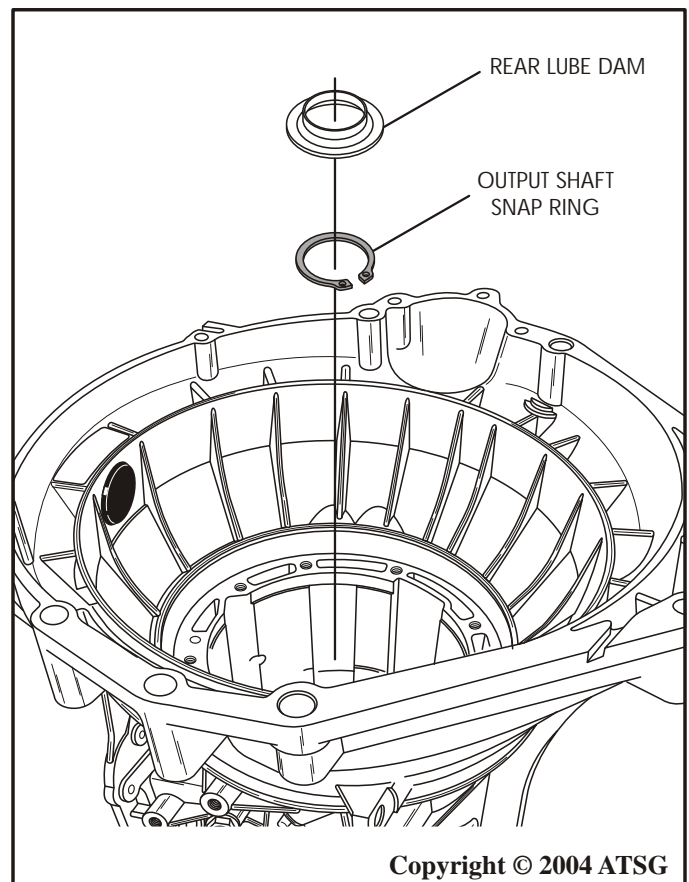

Figure 48
53. Remove the plastic lube dam from the rear planetary ring gear, as shown in Figure 48.
54. Remove the output shaft retaining snap ring from the output shaft, as shown in Figure 48.